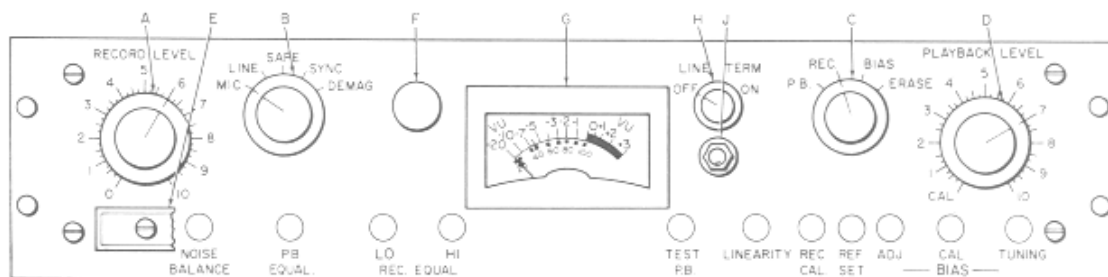

Figure 3-2. Electronics Assembly Front Panel
The amplifier panel controls are shown in fig. 3-2. From left to right, these are the Record Level Control (A), Function Switch (B), Monitor Switch (C), and Playback Level Control (D). The Record Indicator Pilot Light (F), VU Meter (G), Line Termination Switch (H), and Phone Jack (I) are also located on the amplifier control panel.
3.2.2. Electronics Assembly Front Panel (See figure 3-2.)